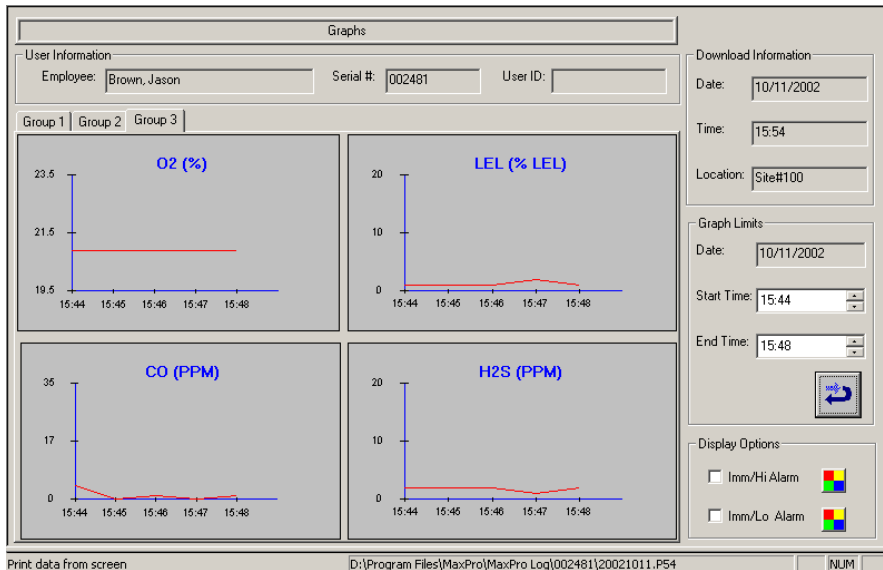

Figure 8 A screenshot of the Graph Screen.
Information on the Graph Screen includes the following (See **Figure 8**):
- To display the graphs, click on the View menu and then on Graphs (or simply click on the View Graphs button on the toolbar of the Main Screen). A group of 4 curves will be displayed (See **Figure 8**).